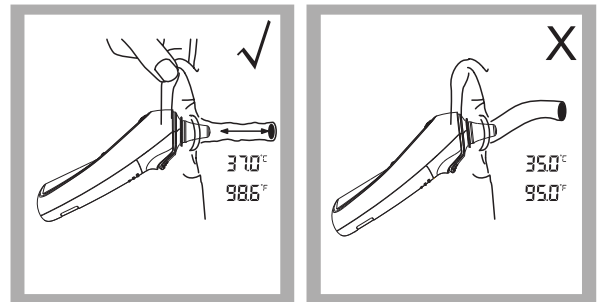
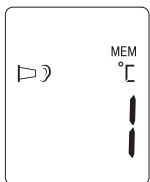

Figure 3
Figure 7
3. Insert the probe along the ear canal as deep as possible into the ear as depicted in Figure 3. Then press the *TEST BUTTON* once to start the measurement. A long beep will sound approximately 1 second after the *TEST BUTTON* is activated. This signals the end of the process as results are displayed on the LCD screen.
When the thermometer has been turned on and followed by Figure 3 or finished testing, press and hold the **⏻ Button** for three seconds. The letter MEM will appear in the center left corner of the display. (See Figure 7)